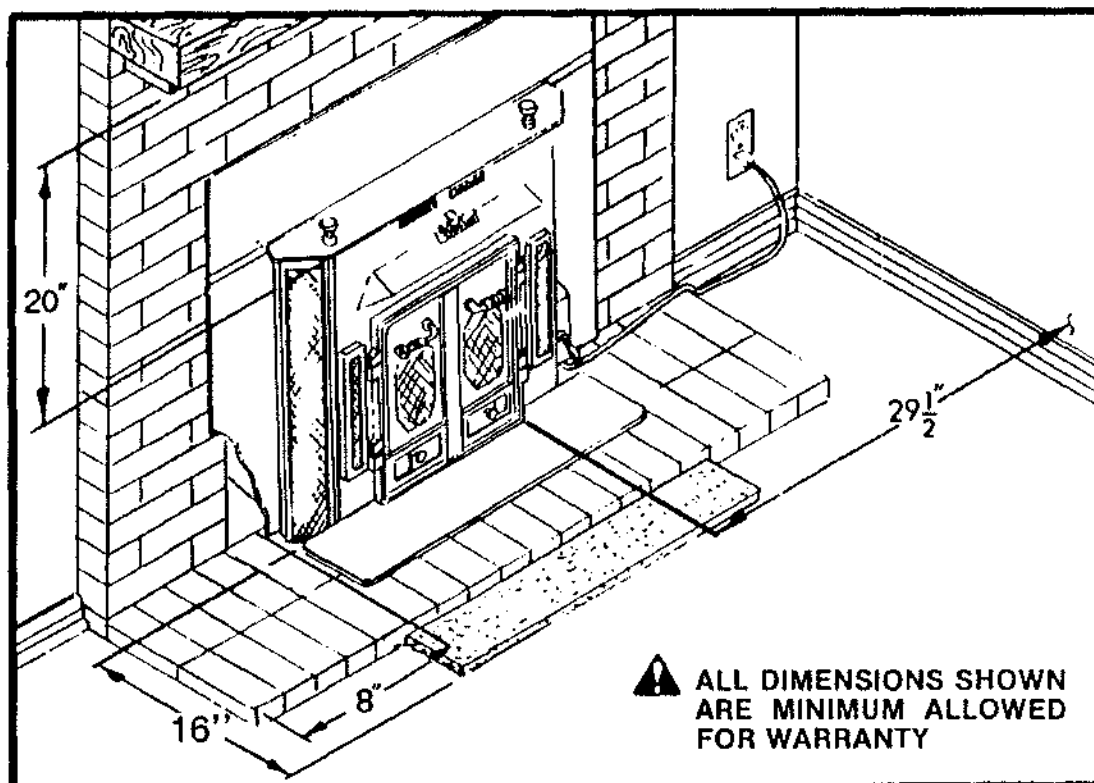

FIGURE 1
3. There must be a minimum of 8" between the side of the masonry fireplace opening and any combustible materials, or 16" between the **BUCK STOVE** firebox opening and any combustible materials. If there is not 16" from the front of the **BUCK STOVE** firebox opening and the front of the masonry hearth, a floor protector must be used in front of the hearth to protect combustible materials. The floor protector is to be of non-combustible, inorganic material equal to 3/8" thick millboard having a thermal conductivity of $K=0.84 \text{ BTU/F}^2\text{H}^\circ\text{F}$ inches and must measure 38" wide. The minimum clearances for the fireplace model are shown in Figure 1.